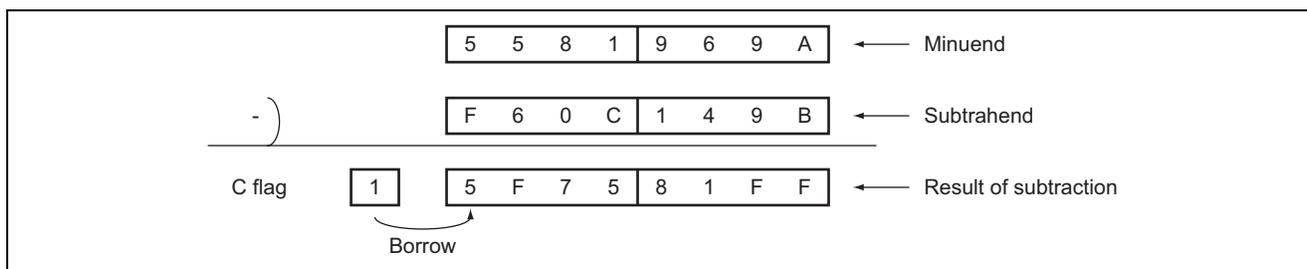

Figure 1 Example of Subtraction with a Borrow
- C flag = 1: A borrow occurred in the result (see figure 1).